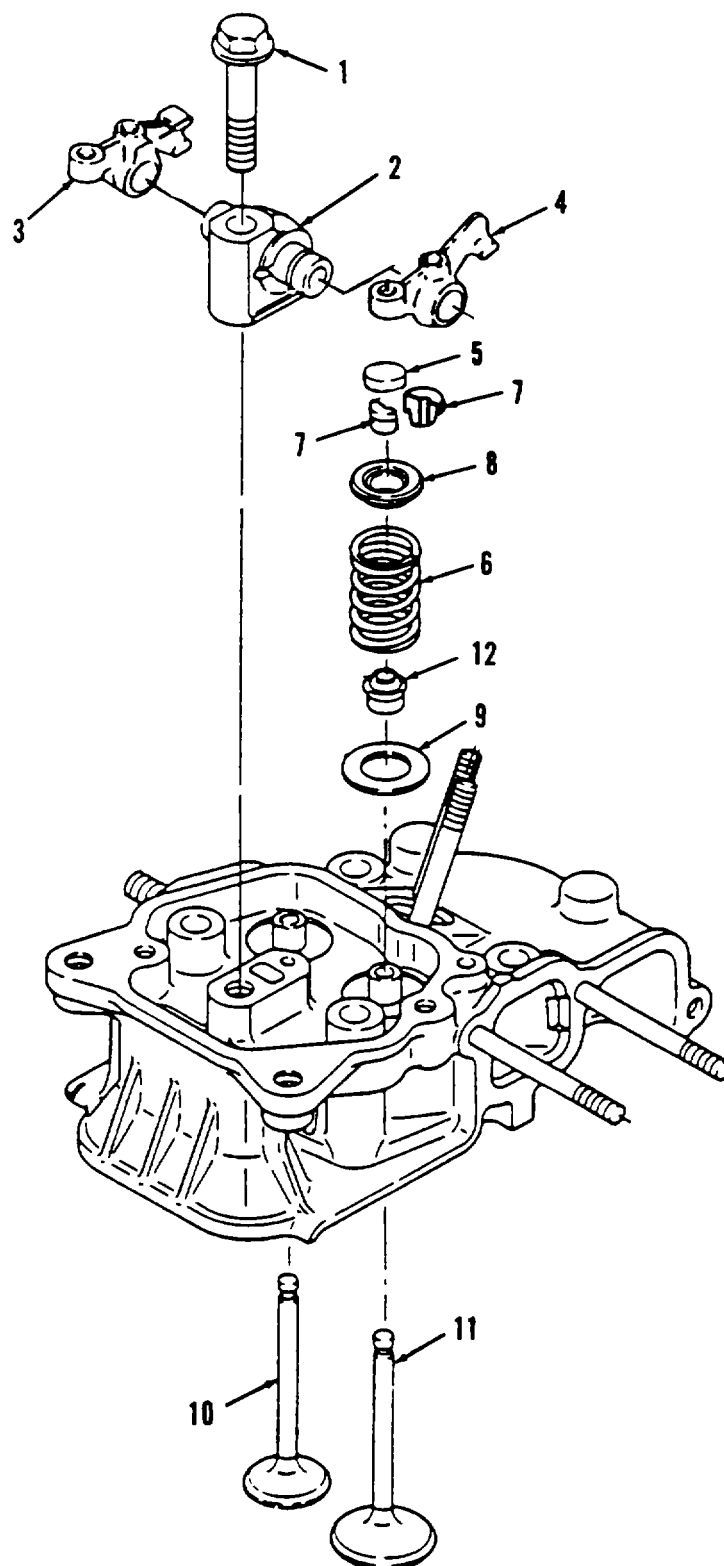

Figure 5-5. Cylinder Head Disassembly.
b. Disassembly. (Refer to Figure 5-5.)
- (1) Remove rocker arm support bolt (1).
- (2) Remove rocker arm support (2) with intake and exhaust valve rocker arms (3 and 4) attached.
- (3) Remove valve stem caps (5).
(1) Replace any components that do not meet inspection criteria.
(2) Remove slight scratches or scuff marks with crocus cloth.
e. Assembly. (Refer to Figure 5-5).
(1) Insert new valve stem seals onto valve guide.
(2) Insert valves (10 and 11) into cylinder head.
(3) Install valve spring washer (9).
(4) Install valve springs (6).
(5) Compress valve spring (6) and install retainer (8) and retainer keeper (7).
- (4) Secure cylinder head (12) to cylinder block using two nuts (9), two washers (10), two nuts (6), and two washers (7).
- (5) Tighten nuts using torque wrench to 20-23 ft-lb (280-320 kg-cm).
- (6) Refer to Figure 5-5. Install valve stem caps (5).